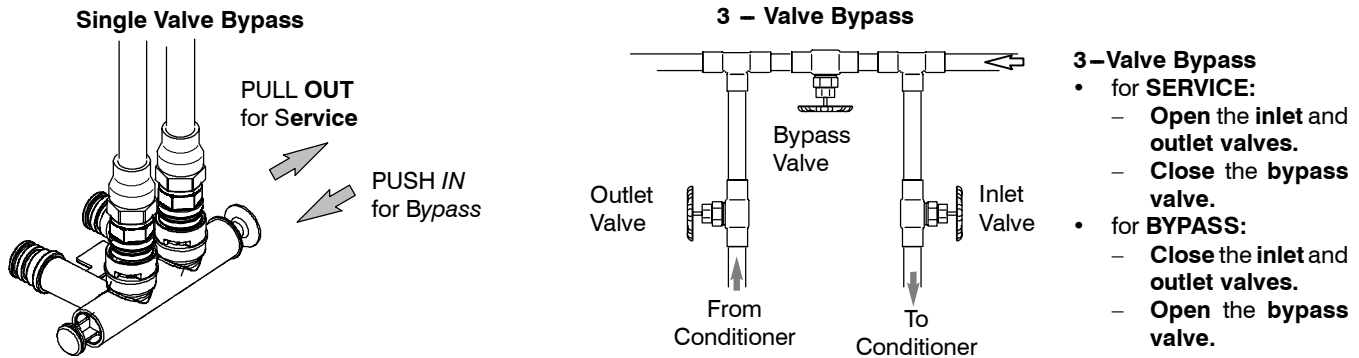

Figure 10
2. Place the bypass valve(s) in “bypass” position. See Figure 10.